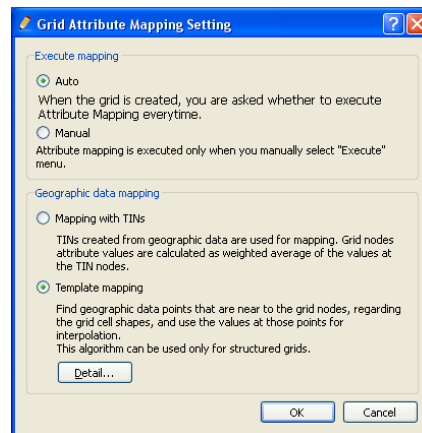

Figure 10. Grid Attribute Mapping dialog
- We need to set the width and length of the template. From the Menu Bar select *Grid ► Attributes Mapping ► Setting*. This opens the Grid Attribute Mapping Setting dialog. We previously set the Execute attribute to Manual and the Mapping attribute to Template. Select the Detail button near the bottom of the dialog (Figure 10).